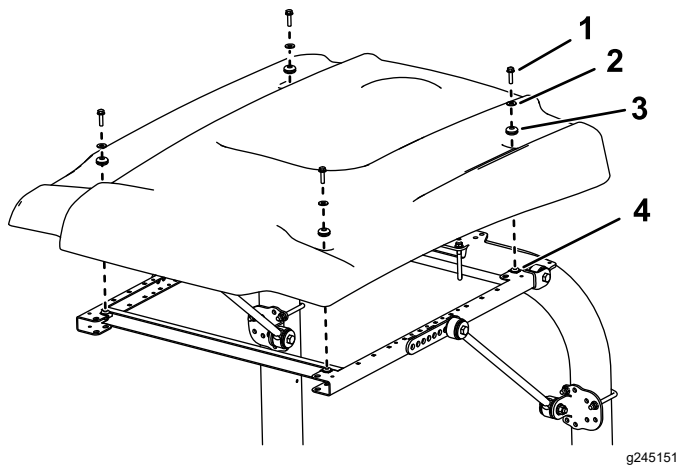

Figure 25
- While aligning the mounting holes, position the sunshade onto the frame as shown in Figure 25.
- Loosely mount each corner of the sunshade to the frame with a flange-head bolt (5/16 x 1-1/4 inches) a small washer, and a grommet (Figure 25).